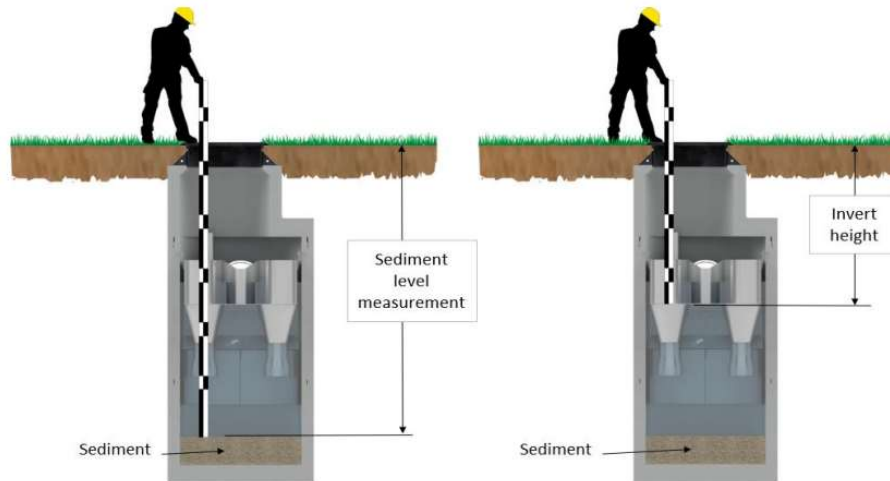

Figure 3 : Sediment inspection method
2. Sediment level inspection (Figure 3)